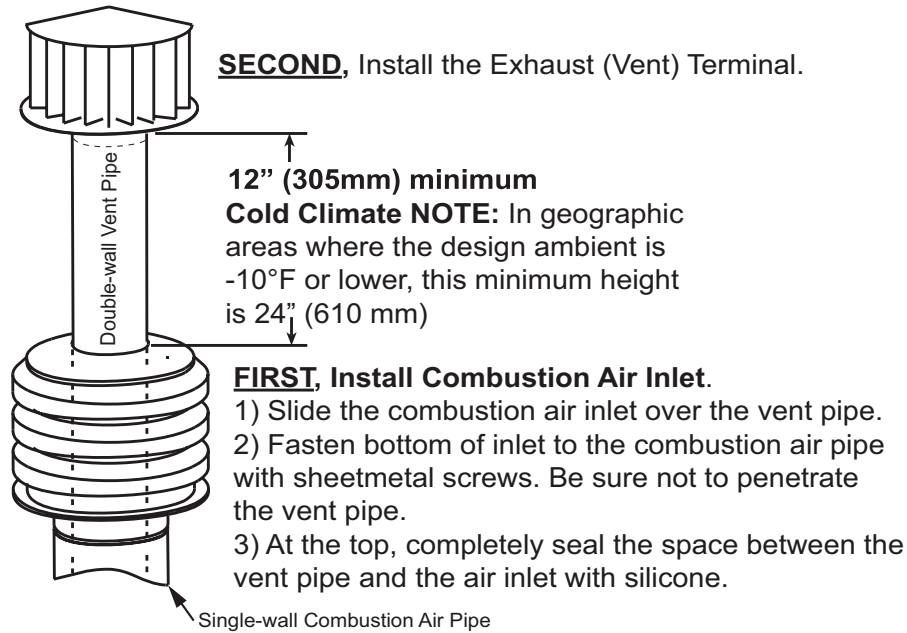

Figure 21. Combustion Air Inlet and Vent Terminal Installation
8. Install combustion air inlet (see Figure 21):
9. Install exhaust vent terminal (see Figure 21) in accordance with Figure 11.